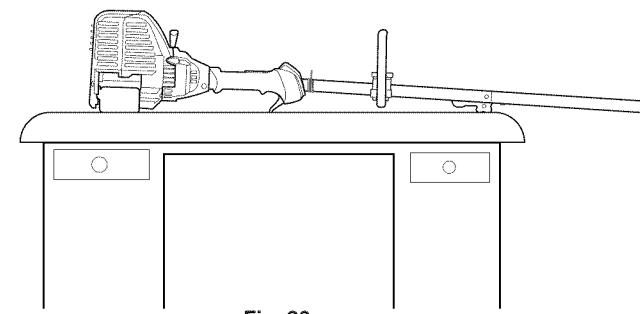

Fig. 20
2. Set the unit on a flat, level surface, such as a workbench or table. The cutting head shield should hang over the edge so that the engine is level (Fig. 20).